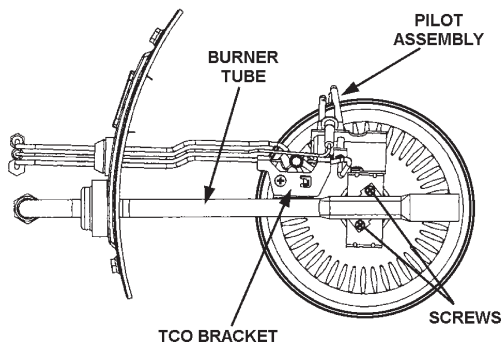

FIGURE 15.
14. To remove the natural gas pilot assembly, remove the Phillips-head screw holding the TCO bracket to the burner tube bracket, see Figure 15.